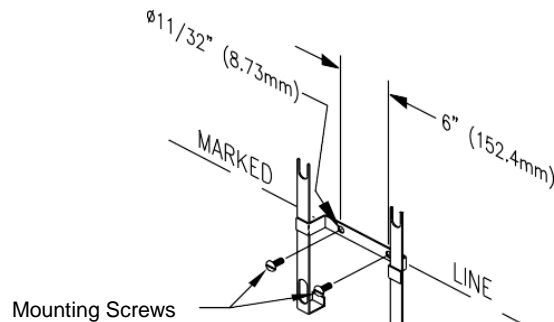
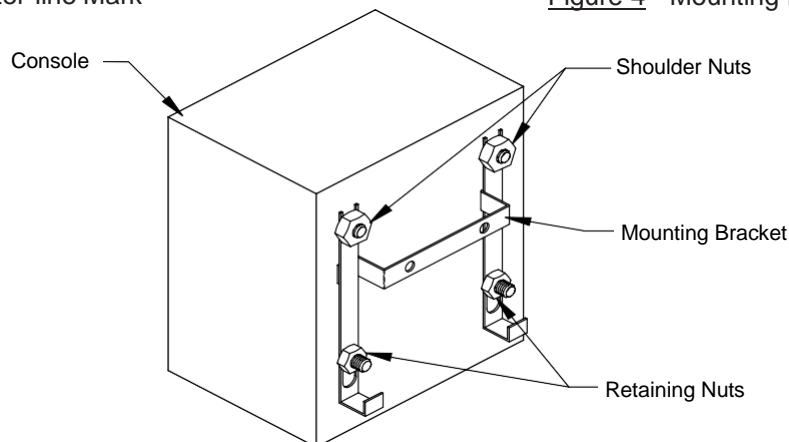

Figure 4 - Mounting Bracket
Figure 5 – Console and Mounting Bracket
3. Remove the mounting bracket from the rear of the AutoSwitch Console by removing the retaining nuts at the bottom of the mounting bracket (Figure 5). Place the upper edge of the bracket cross-member on the horizontal line so that it is centered with the vertical line. Holding the bracket with the slotted extensions away from the wall, mark the location of the two mounting bolts (Figure 4)
4. Using appropriate hardware based on wall construction, anchor the mounting bracket to the wall (Figure 4).